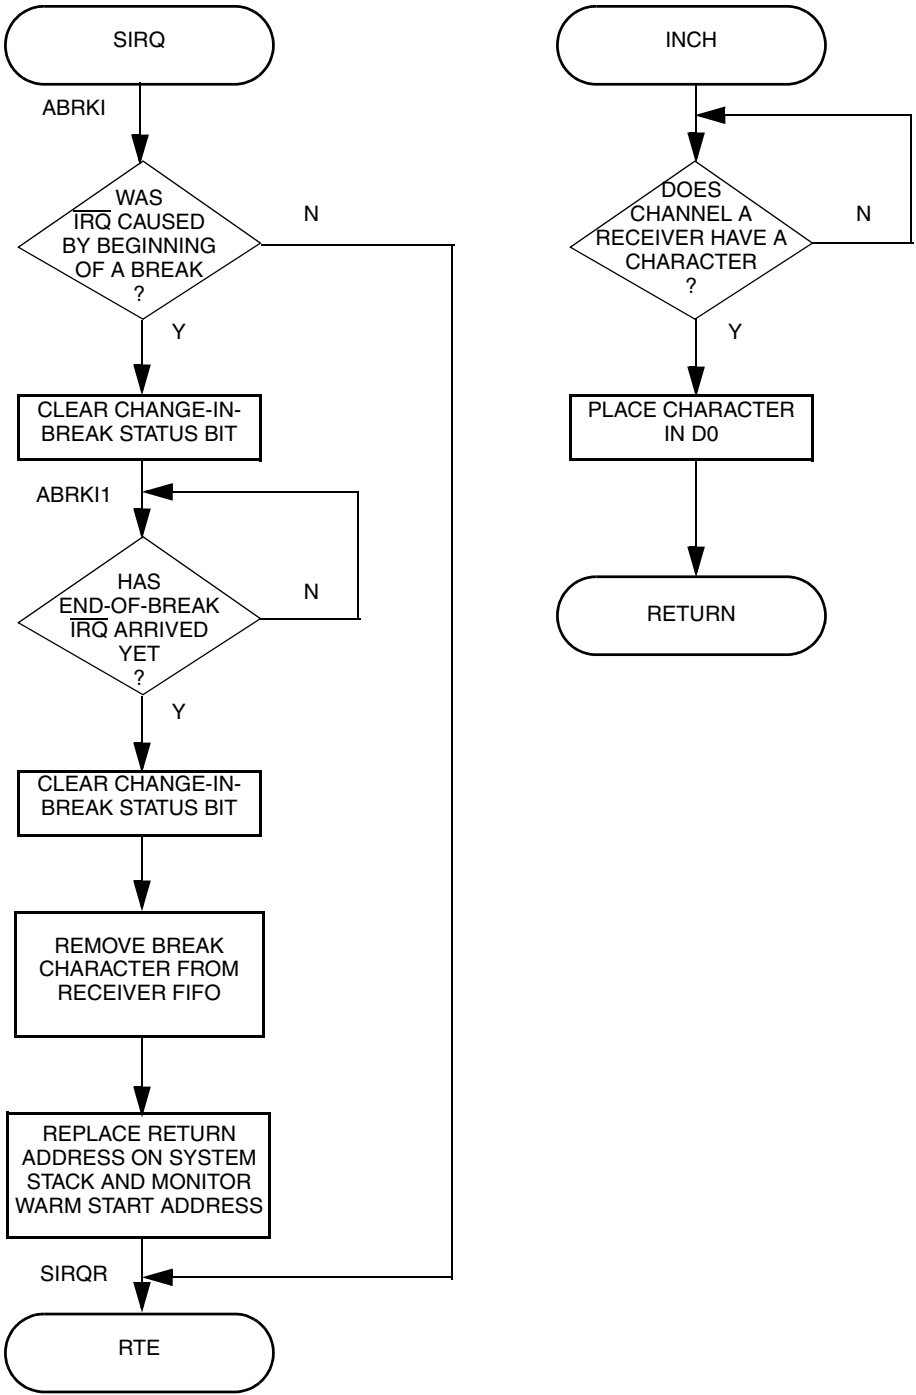
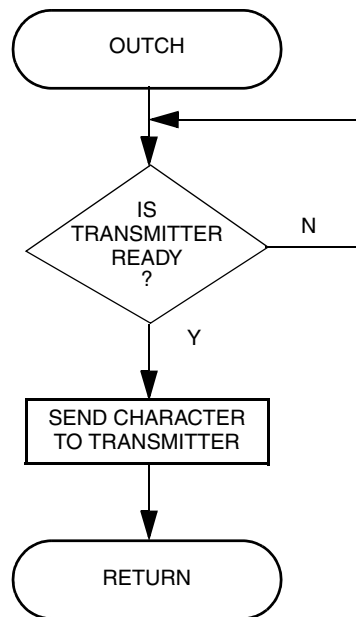

Figure 24-28. UART Mode Programming Flowchart (Continued)
**Figure 24-29. UART Mode Programming Flowchart (Continued)**
- I/O driver routine—This routine (See Figure 24-28 and Figure 24-29) consists of INCH, the terminal input character routine which gets a character from the receiver, and OUTCH, which sends a character to the transmitter.
- Interrupt handling—Consists of SIRQ (See Figure 24-28), which is executed after the UART module generates an interrupt caused by a change-in-break (beginning of a break).